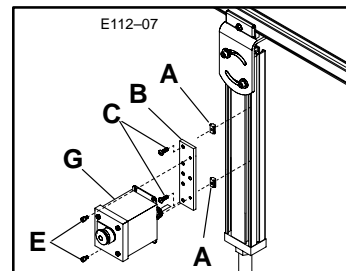

Figure 7: E-Stop Horizontal Mounting to Aluminum Stand Leg
- a. For an aluminum Leg, select desired location and insert the two Single Drop-in T-bars into Leg channel by rolling each of them into position (see Figure 7).
- a. Refer to Figure 7 and disassemble and re-attach Pushbutton Box assembly to the Mounting Plate and Mounting Brackets in the manner shown.
- b. Then, attach assembly to the Single Drop-in T-bars, using the M6 x 16 mm Button Head Cap Screws (Figure 7). Tighten Screws with 4 mm Hex Key Wrench provided.